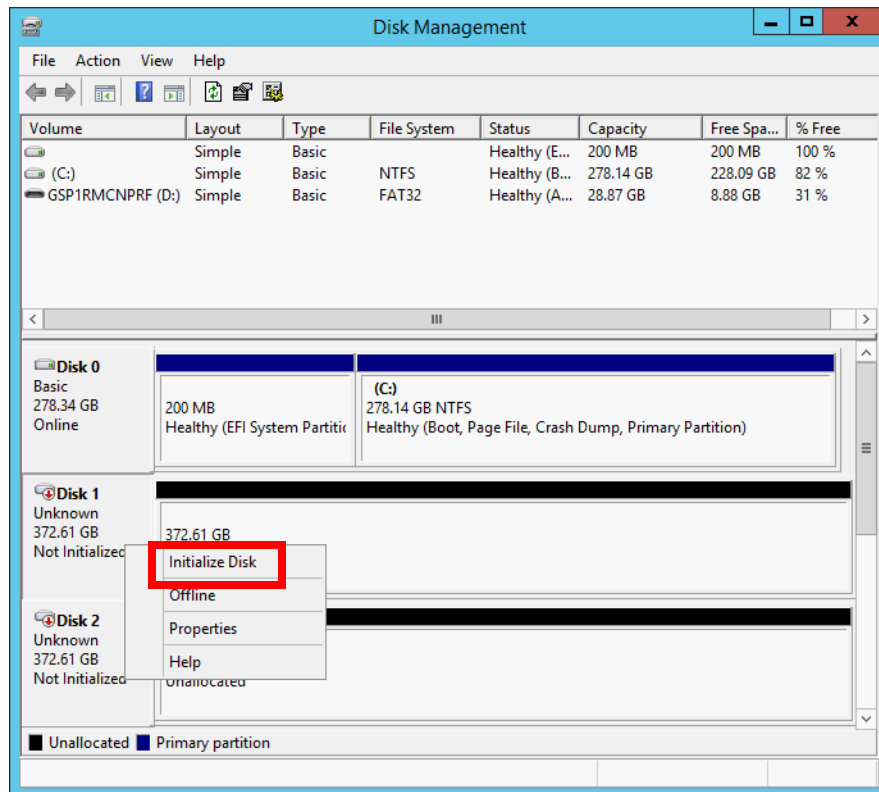
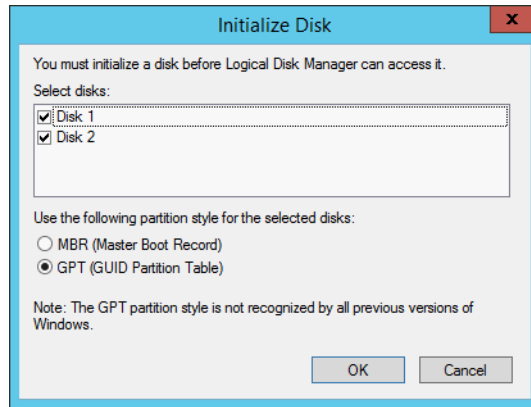

Figure 5-49 Disk Management tool and NVMe drives
Figure 5-50 Disk initialization
2. Open the Disk Management tool, you should see all installed NVMe drives. For example, both installed NVMe drives are presented as Disk 1 and Disk 2, as shown in Figure 5-49 on page 192.
- Both NVMe drives must be online and initialized. To initialize the drives, right-click the appropriate disk (Disk 1 or Disk 2 as shown in Figure 5-49) and select **Initialize Disk**. The Initialize Disk window opens, as shown in Figure 5-50.